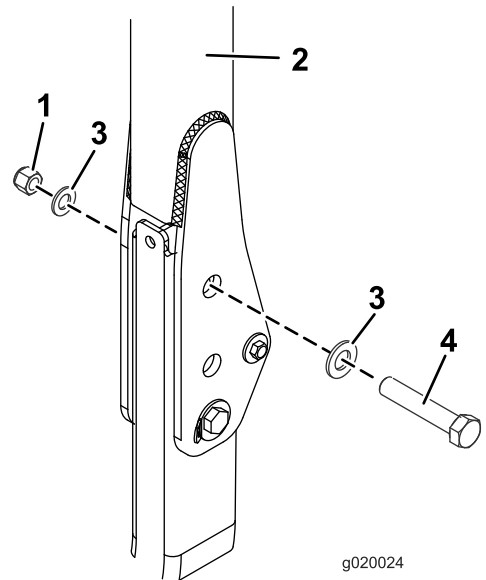

Figure 30
3. Insert a washer (13/16 x 1-1/2 inches) onto each bolt (3/4 x 4 inches) as shown in Figure 30.
4. In the holes where the pins were removed, install the bolts and washers (Figure 30).
5. Install another washer onto each bolt and secure with nut (3/4 inch) as shown in (Figure 30). Torque the nuts 323 to 396 N·m (238 to 292 ft-lb).
6. Torque the ROPS pivot bolt (Figure 30) 91 to 113 N·m (67 to 83 ft-lb) to avoid any bouncing of the roll bar and sunshade.